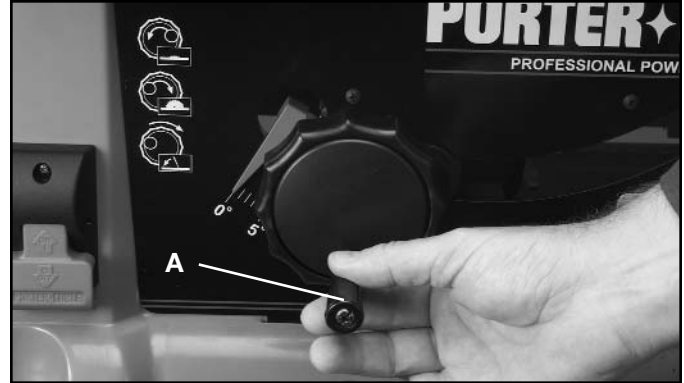

Fig. 18
To raise or lower the saw blade, turn handwheel (A) Fig 18. Turning the handwheel counterclockwise lowers the blade and turning the handwheel clockwise raises the blade.